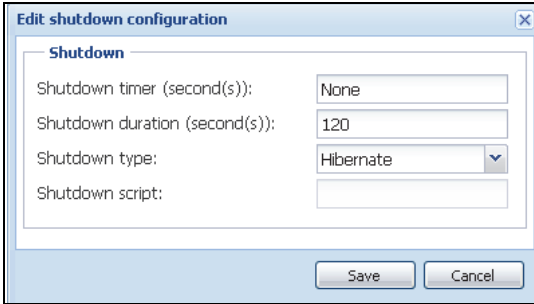

Figure 67. Edit Shutdown Configuration Dialog Box
- Figure 67 illustrates the Dell ULNM default configuration available from **Settings > Shutdown > Edit Shutdown Configuration**.